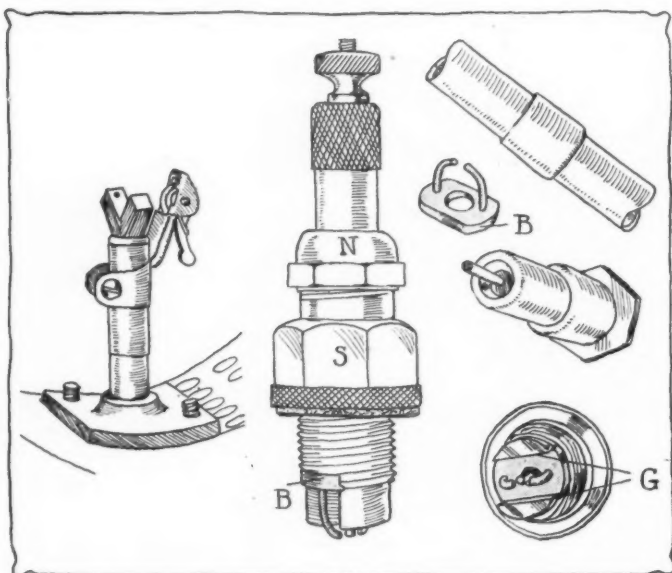

Fig. 9—Morgan friction igniter for acetylene headlights. Fig. 10—XXX company's interchangeable-point spark plug
**Morgan Acetylene Lighter**—B. Morgan, Newport, R. I., is the maker of the friction igniter for acetylene lighting outfits, Fig. 9. This device consists of a lever which if lifted compresses a spring. If the lever is released, the spring snaps back and with a specially-prepared piece of steel comes into frictional contact with a rough surface finished in the style of a file, thereby producing a shower of sparks and igniting the acetylene which must be turned on before lifting and releasing the lever. The device is secured to the acetylene burner by means of a metal U, the ends of which are held tightly together through a screw.